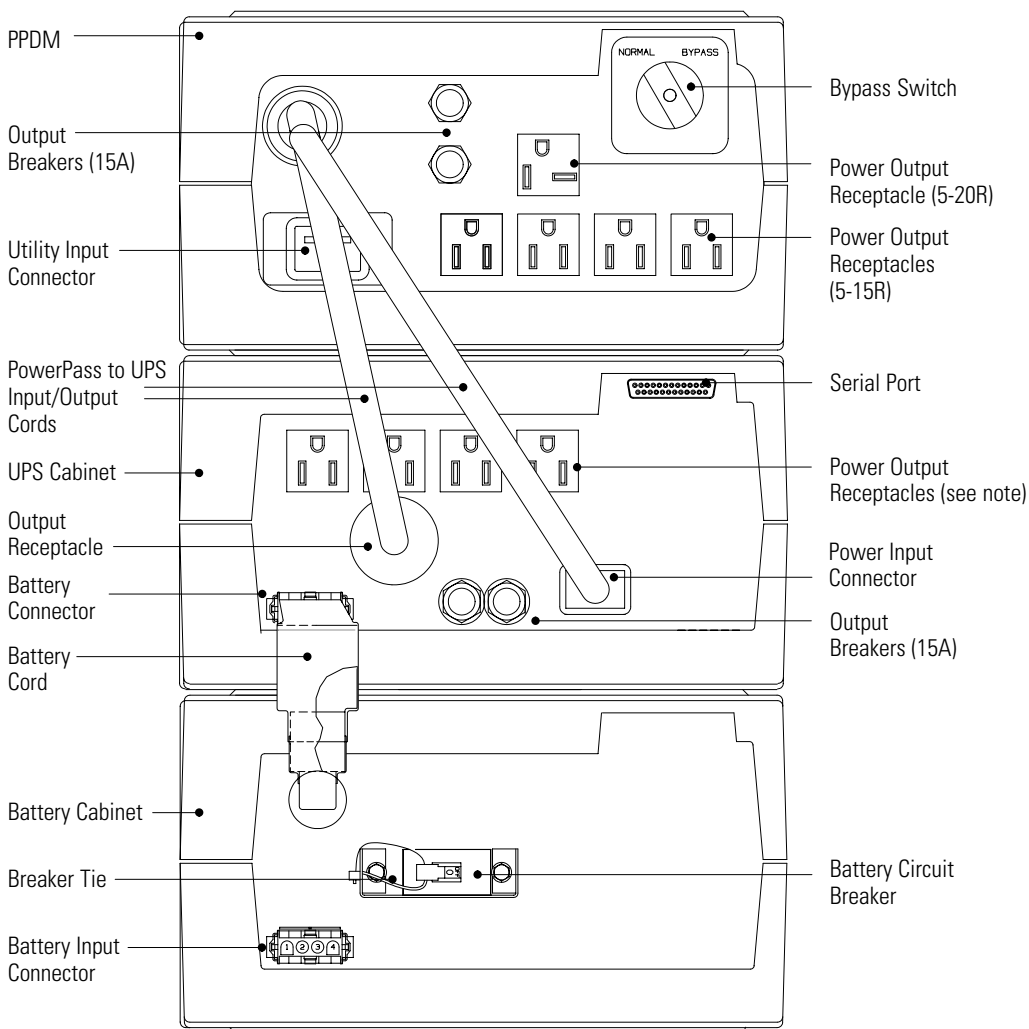

Figure 6. UPS with PPDM Rear Panel
3. Verify the circuit breaker on all battery cabinets is in the OFF (O) position (see Figure 6).
7. Switch the circuit breaker on all battery cabinets to the ON (I) position.
9. Plug the input and output cords of the PPDM into the power connectors on the UPS as shown in Figure 6.
2. Turn the Bypass switch on the PPDM rear panel to the NORMAL position (see Figure 6 on page 33).